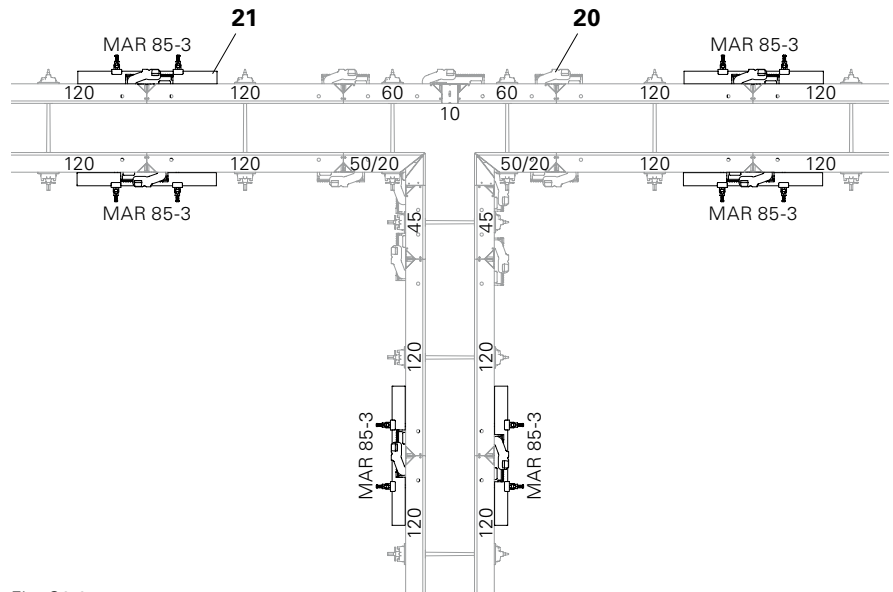

Fig. C6.01
For panels with widths  $b \leq 120$  following 90° T-junctions, these must be strengthened at the next panel joint by means of a Compensation Waler MAR 85 (21). (Fig. C6.01)